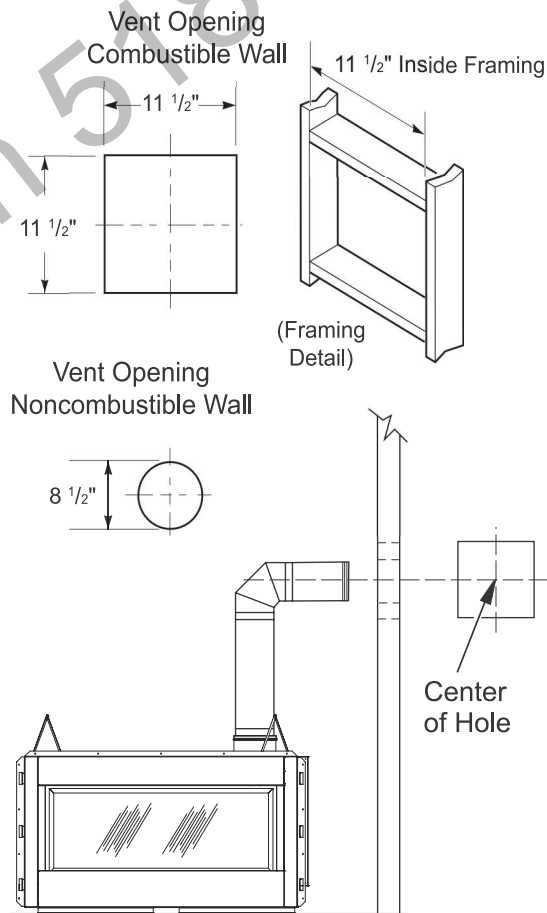
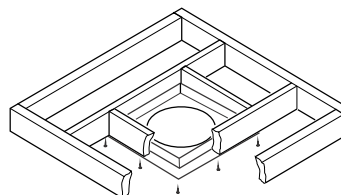

Figure 9 - Vent Opening Requirements
Figure 17 - Installing Firestop
etrated is constructed of noncombustible material, such as masonry block or concrete, a 8 1/2" hole with zero clearance is acceptable (see Figure 9).
1. Cut a 11 1/2" square hole in ceiling using locating hole as a center point. Opening should be framed to 11 1/2" x 11 1/2" inside dimensions, as shown in Figure 9 on page 12 using framing lumber the same size as ceiling joists. If area above ceiling is an insulated ceiling or an attic, nail firestop from top side. This prevents loose insulation from falling into required clearance space. If area above ceiling is a living space, install firestop below framed hole. Firestop should be installed with no less than three nails per side (see Figure 17).
3. Cut a hole in the roof using locating hole as a center point. (Cover any exposed open vent pipes before cutting hole in roof.) The 11 1/2" x 11 1/2" hole must be measured on the horizontal; actual length may be larger depending on pitch of roof. There must be a 1" clearance from vent pipe to combustible materials. Frame opening as shown in Figure 9 page 12.
Figure 17 and 18, page 17 and 18, shows the configurations for vertical termination.